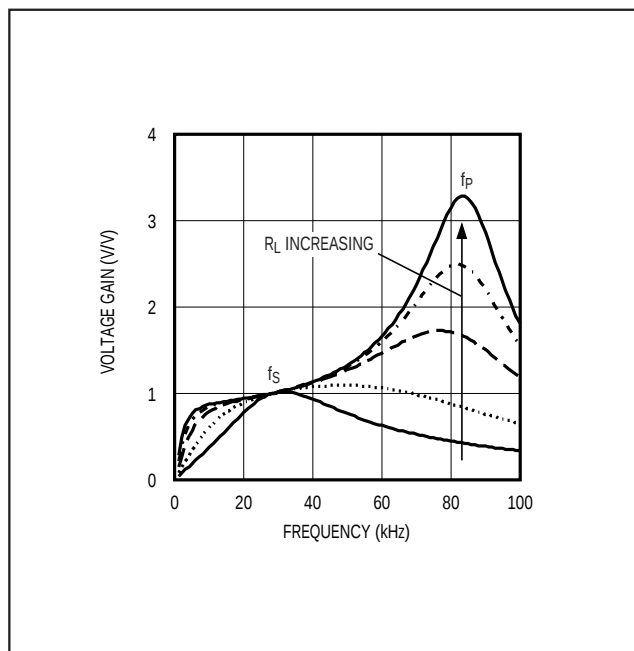

Figure 5. Frequency Response of the Resonant Tank
Figure 5 shows the frequency response of the resonant tank's voltage gain under different load conditions. The primary series capacitor is 1μF, the secondary parallel capacitor is 15pF, the transformer turns ratio is 1:93, and the secondary leakage inductance is 260mH. Notice that there are two peaks, f_S and f_P , in the frequency response. The first peak, f_S , is the series resonant peak determined by the secondary leakage inductance (L) and the series capacitor reflected to the secondary (C'_S):